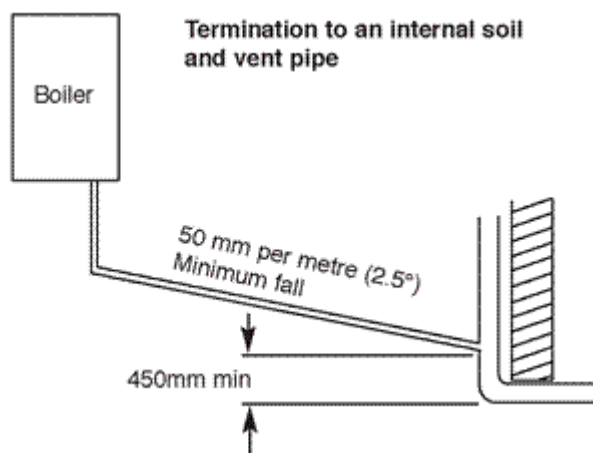

Fig 5
- ii. to an internal soil & vent pipe - Fig. 5.